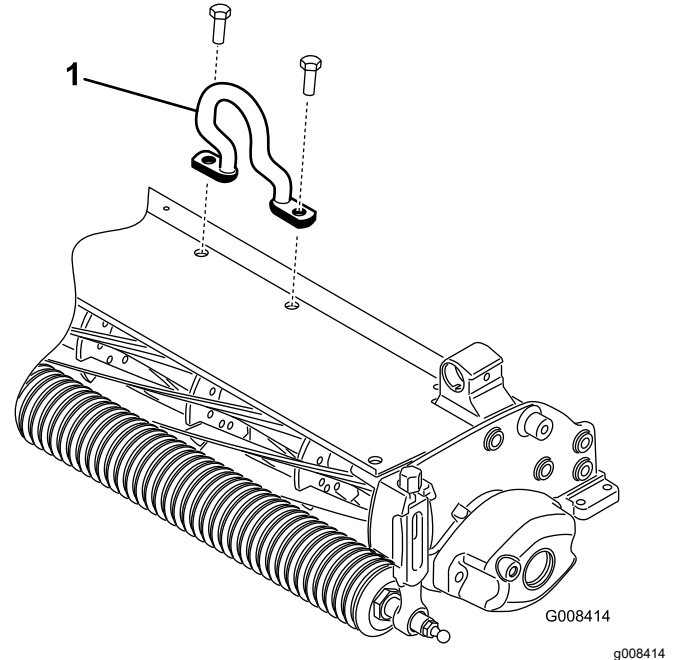

**Figure 5**
- A **hoop link** (Part No. 105-5740) as shown in Figure 5 is required for the Greensmaster 3000, 3000-D, 3050, 3100, 3150, and 3150-Q traction units (it is supplied with the above Greensmaster traction units).